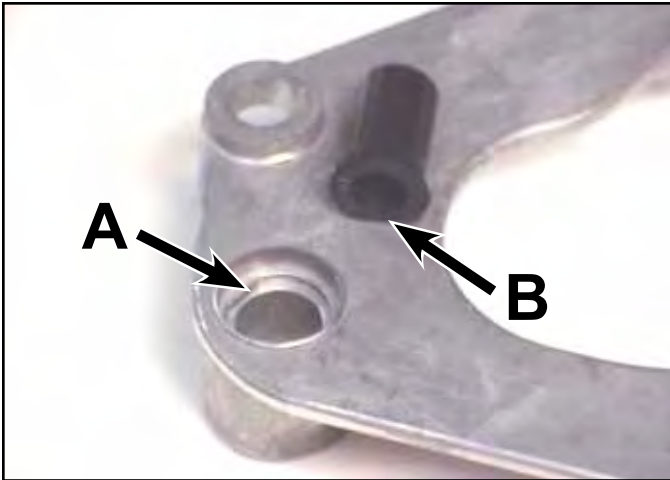

Fig 252 MVC-257X
16. The bushing has a notch removed from the flange end. Align that notch in the bushing with the tab in the anchor plate (Fig. 252).